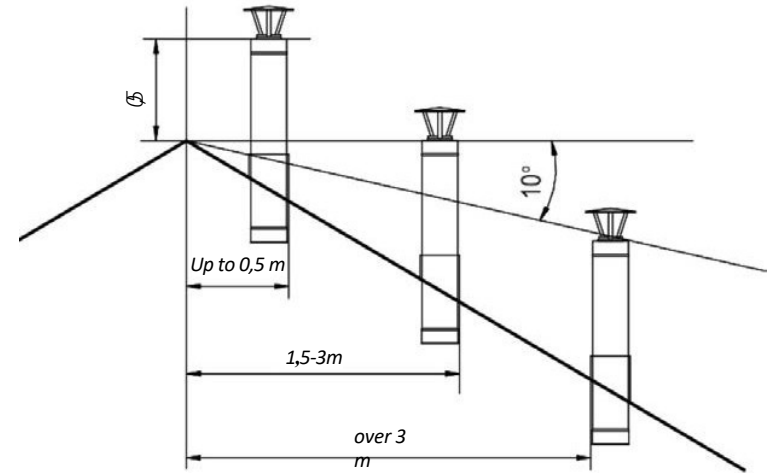

Figure 5: Location of the chimney above the roof
- not lower than a line drawn downwards from the ridge at an angle of 10° to the horizon, if the chord is more than 3,0 m from the ridge (Figure 5).